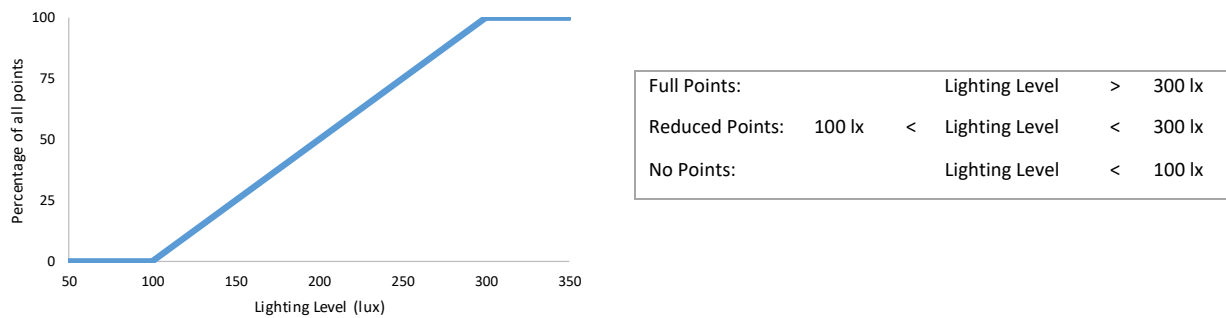

Figure 10: Natural light sub contest point distributing
- b) Reduced points are earned if the time-averaged interior illumination level is between 300 lux and 100 lux. Reduced point values are scaled linearly, as shown in Fig. 10.